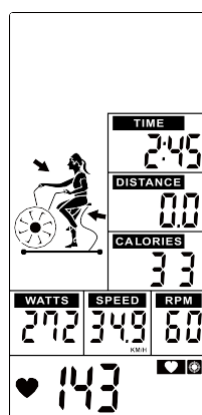

Figure 49
- ⑥ When Heart Rate goes between 65% ~ 85%, only **HEART** will flash (Figure 49).
- ⑦ No signal input for 30s, buzzer sounds 1 short beep and enter to Wake-up mode.
- ⑧ Press START button once enter into PAUSE mode. Buzzer will sound for 0.5s per second within 30s. All values are displaying on LCD and flashing in every 2s. If continue to stop training for 5 minutes, buzzer sounds 2s and enter to Wake-up mode. Press START to resume workout.